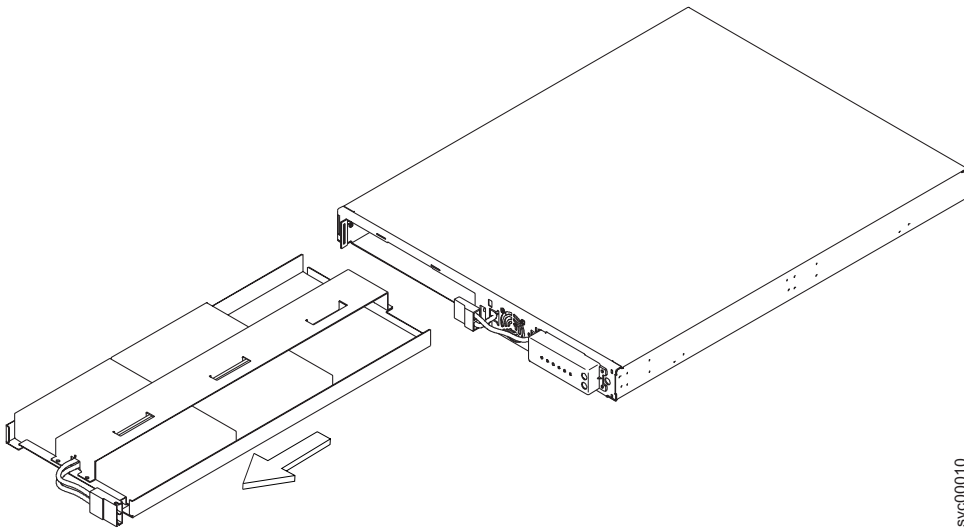

Figure 332. Removing the 2145 UPS-1U battery
5. Slide the battery out of the 2145 UPS-1U, as shown in Figure 332, and remove it, laying it on a flat surface.